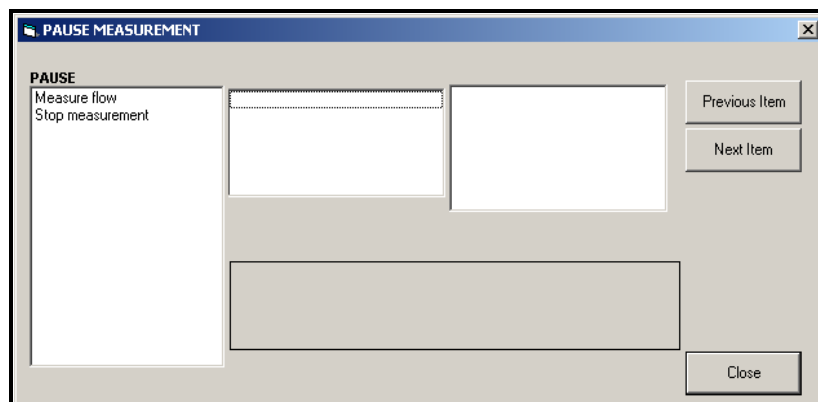

Figure 3-6: The *Pause Measurement* Window
2. Expand the *Edit Functions* option, and double-click on the *Pause Measurement* entry. A window opens similar to Figure 3-6 below.